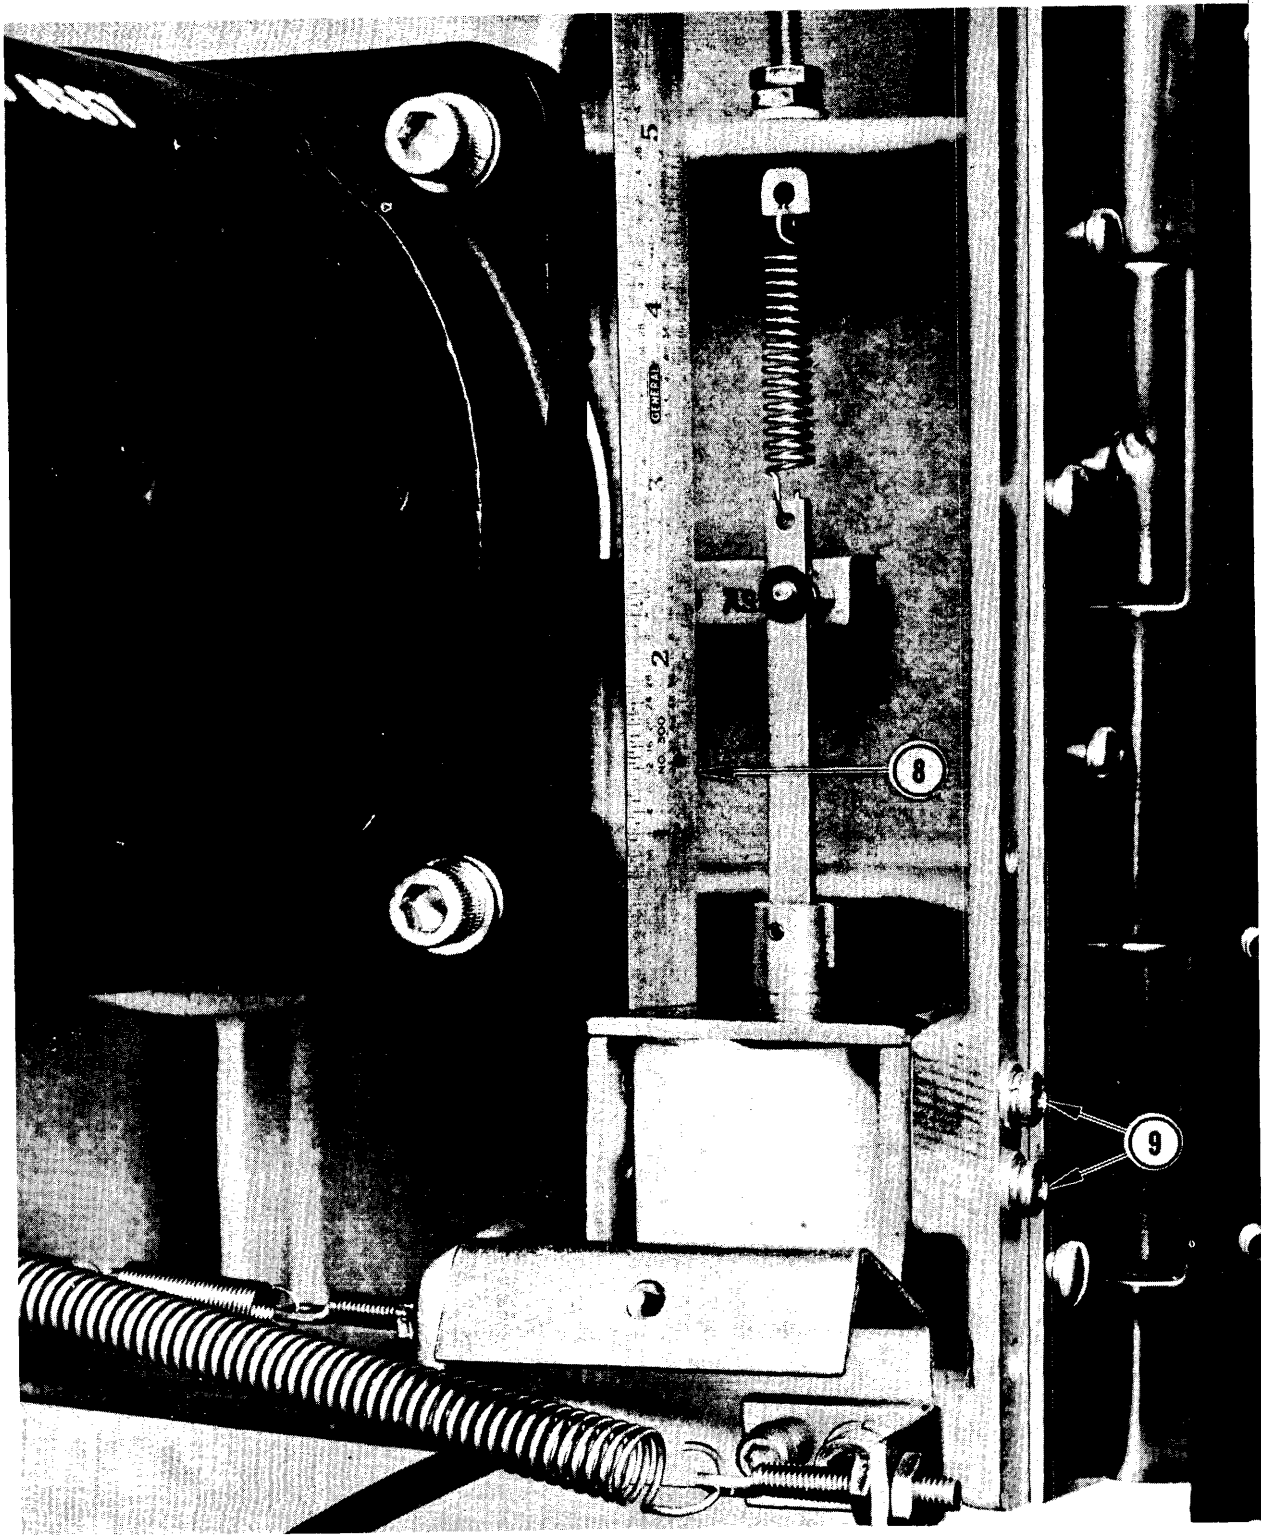

Figure 5-14.
5-44. REEL BRAKES CHECKOUT AND ADJUSTMENT. (See Figure 5-14.)
- Step 8: Place 6-inch scale on brake solenoid parallel to plunger (#8, Figure 5-14). Turn electrical power on and off at the variable transformer, observing travel of the plunger. Plunger travel should be 1/16-inch.
- Step 9: If plunger travel needs to be adjusted, loosen but do not remove, solenoid mounting screws (#9, Figure 5-14). Slide solenoid up or down in slotted holes in plate until proper plunger travel is obtained. Tighten mounting screws.